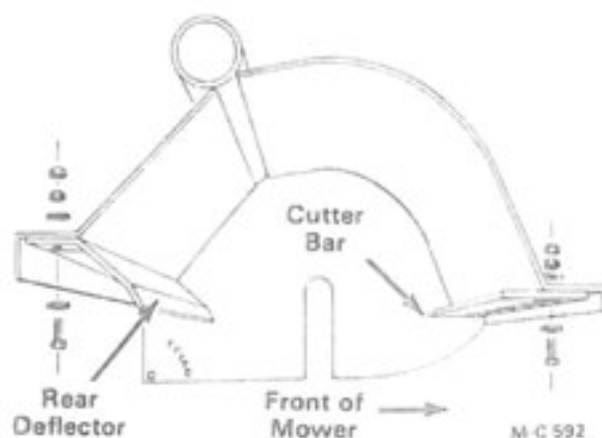

Figure 10
1. Bolt the rear deflector to the mower body with  $\frac{1}{2}$ -13 x 1 $\frac{3}{4}$ " (Grade 5) hex-head capscrews, flatwashers and hex-nuts. The heads of the capscrews go to the inside, see Figure 10.